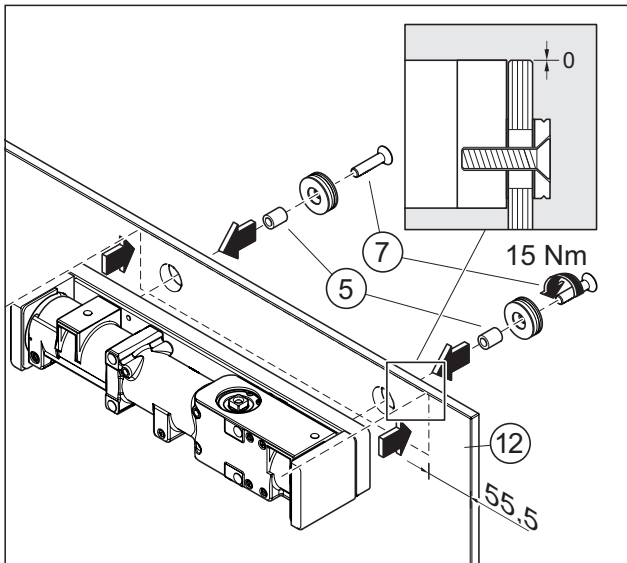

Fig. 10 Attach the carrying plate, hose sections and system fixers to the holes
- Align the carrying plate on the hinge side (inside) and the system fixers on the opposite side to the hinge (outside) with the holes of the glass door and fix them to the glass door with a torque of 15 Nm (Fig. 10).